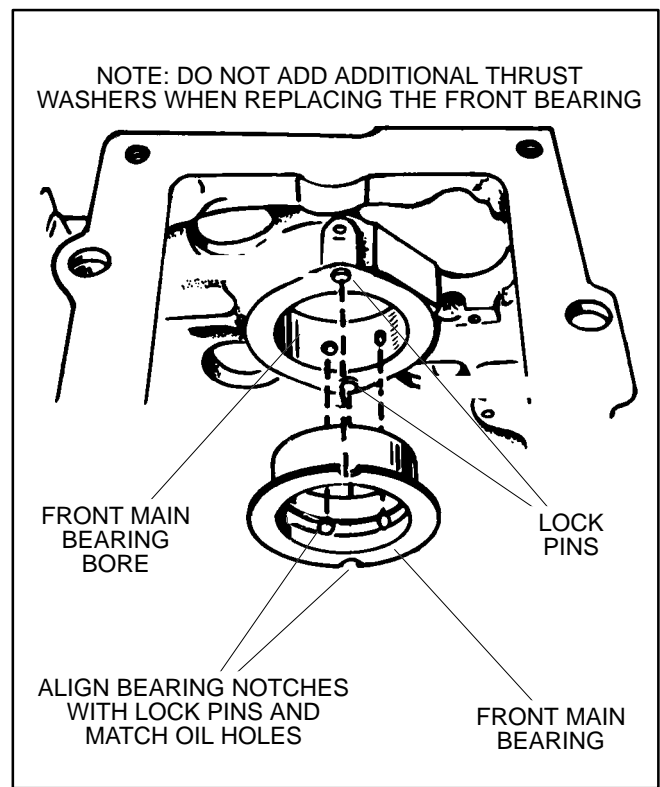

FIGURE 7-31. FRONT CRANKSHAFT BEARING
2. Reinstall the original front thrust bearing if it is still usable or has not been replaced by the combination thrust/shell bearing (Figure 7-31). The flat side goes against the block and the notches should clear the lock pins. Liberally oil the thrust and shell bearing surfaces.
Front Bearing: See Figure 7-31. Use Loctite brand Bearing Mount or equivalent when installing the front bearing in its bore in the block. Use the towelette furnished with the bearing kit to clean the outside of the bearing and its bore in the block. Apply the Loctite to the outside of the bearing and to the mating surface of the bore in the block. Allow three to four minutes for drying.